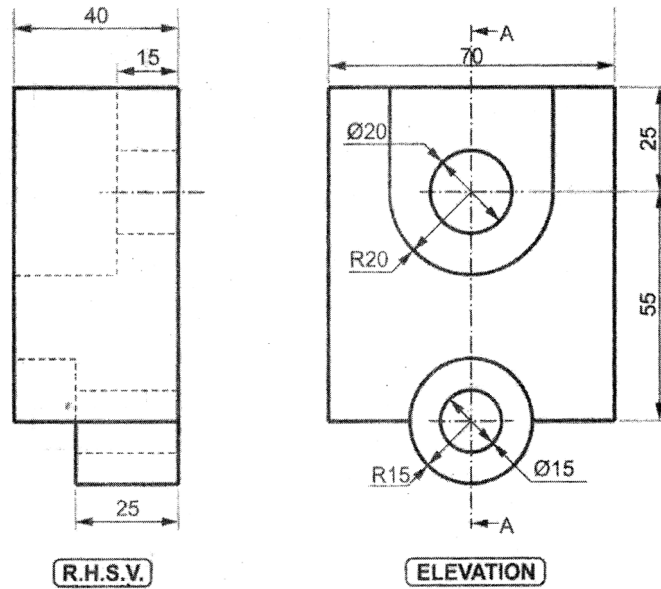

Fig. 8
10. Fig. 8 shows elevation and RHSV of a machine part. Draw :